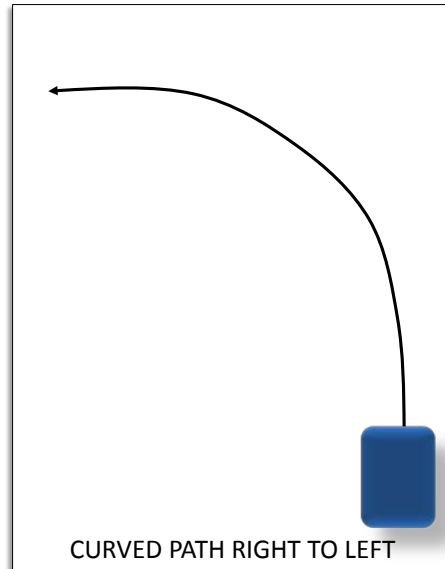

Figure 6: Setup for analyzing the curved path from right to left. The blue rectangle represents the car and the arrow indicates the direction to roll the car.
9. Place the car on the bottom right hand corner of the construction paper and roll the car in a curved path from the bottom right corner to the top left corner of the paper until the front tires reach the edge of the paper (Figure 6). Leave the car where it rests when you stop rolling it.